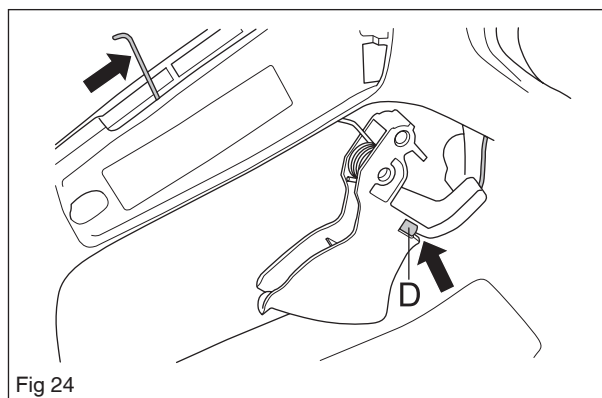

Fig 24
1. Lubricate the pin and joined surfaces with a light oil. Hook on the throttle cable (D). Slide in the throttle control and make sure the spring is fitted as outlined in figure 24.